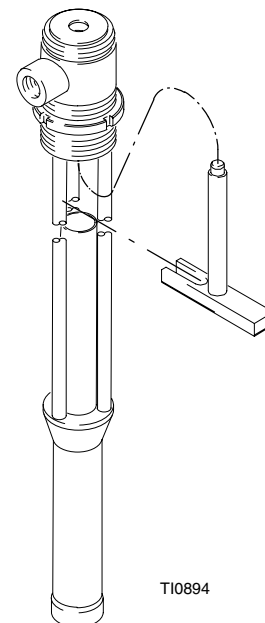

Fig. 5
4. Unscrew the piston valve housing (109) from the lower connecting rod (115). Unscrew the piston body (113) from the piston valve housing (109).
5. Unscrew the lower connecting rod (115) from the upper connecting rod (120). Remove the cup packings (107), bearing (108) and backup washer (114).
6. Lubricate the packings (107**) and bearing (108**) with no. 2 lithium-based grease. Install the backup washer (114) on the lower connecting rod (115), making certain that the grooves face up.
7. On the upper connecting rod (120), install one cup packing (107**) with the lips facing up, the bearing (108**), and the second packing (107**) with the lips facing down. Reconnect the upper and lower connecting rods. Torque to 20-25 ft-lb (27-34 N.m).
8. Lubricate the packings (111**) and bearing (112**) with no. 2 lithium-based grease. On the piston (113), install one cup packing (111**) with the lips facing down, the bearing (112**), and the second packing (111**) with lips facing up. Install the backup washer (110), with the grooves facing down.
9. Place the ball (104**) atop the piston body (113), then screw the piston body and piston housing (109) together. Torque to 30-35 ft-lb (41-48 N.m). Screw the piston valve housing onto the lower connecting rod (115). Install the seal (134**), *with the lips facing down*, in the displacement pump frame (119), then install the bearing (118**). The seal (134**) should be installed from the bottom of the frame using tool 233582. See fig. 5. Use a turning motion to work the connecting rod and piston back into the pump frame (119).
1. Unscrew the air motor connecting ring (AA). Lay the pump on its side and rotate the displacement pump until the ball on the upper connecting rod (320) comes free of the socket in the motor piston rod. Separate the motor from the displacement pump.
2. Unscrew the intake adapter (321) from the intake valve housing (317). Remove the o-ring (322). Unscrew the intake valve housing (317) from the pump frame (319). Disassemble the intake valve.
3. Push down on the upper connecting rod (320) until the fluid piston assembly is clear of the displacement pump frame (319). Pull the piston assembly and connecting rod out of the frame. Remove the bearing (318) and seal (334**) from the frame.
- NOTE:** Scoring or irregular surfaces on the connecting rods (320, 315) or polished inner wall of the pump frame (319) can cause premature packing wear and leaking. To check these parts, rub a finger over the surface or hold the part up to the light at an angle.
6. Lubricate the packings (311**) and bearing (312**) with no. 2 lithium-based grease. On the piston (313), install one cup packing (311**) with the lips facing down, the bearing (312**), and the second packing (311**) with the lips facing up. Install the backup washer (310) with the grooves facing down.
9. Place the ball (304**) atop the piston body (313), then screw the piston body and piston housing (309) together. Torque to 30-35 ft-lb (41-48 N.m). Screw the piston valve housing onto the lower connecting rod (315). Install the seal (334**), *with the lips facing down*, in the pump frame (319), then install the bearing (318**). The seal (334**) should be installed from the bottom of the frame using tool 233583. See fig. 5. Use a turning motion to work the connecting rod and piston into the frame (319).
10. Reinstall the ball (305**) and stop pin (316) in the intake valve housing (317). Screw the housing into the pump frame (319). Place the o-ring (322**) into the inner groove of the intake adapter (321). Screw the adapter onto the intake valve housing (317).
11. Lay the pump on its side and reconnect the upper connecting rod (320) with the air motor piston rod. Tighten the air motor connecting ring (AA).